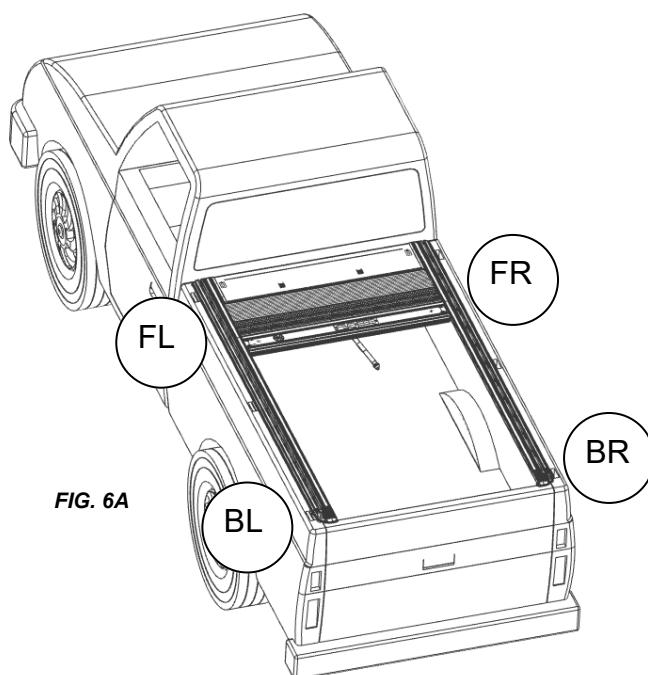
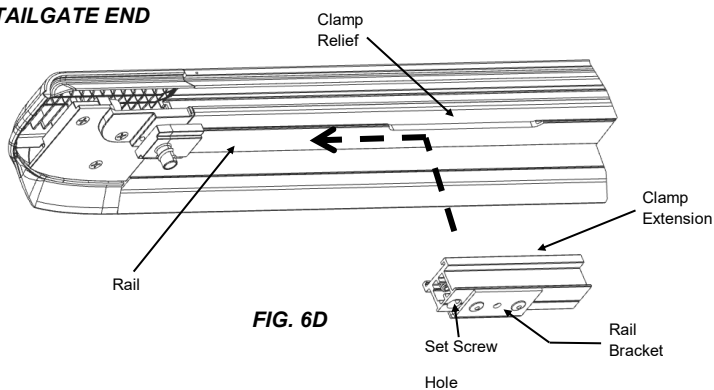

FIG. 6A
FIG. 6D
Slide the clamp extensions on the tailgate and cab end of each rail as pictured in Figure 6A-6E. Ensure that your tailgate end and cab end extensions are in the correct orientation (FIG 6D & 6E). Each clamp extension is labeled for front left (FL), front right (FR), back left (BL), and back right (BR) shown in Figure 6F. The extensions go on the corners shown in figure 6A.